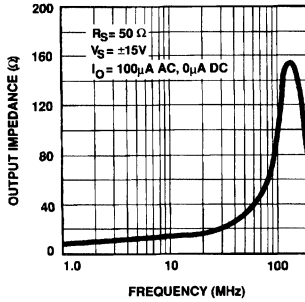

Figure 4. Output Impedance vs Frequency
The ideal buffer should exhibit zero output impedance. Illustrated in Figure 3 is the DC output impedance of the EL2002 as a function of output current. As the load current increases,  $R_{OUT}$  asymptotically approaches the value of  $R_1$  or  $R_2$  (depending on which half of the circuit is working). In other words, the  $r_e$  term approaches zero as the emitter current increases per equation (4) above. Furthermore, Figure 4 illustrates the small signal output impedance of the EL2002 as a function of frequency. In this instance any impedances which exist at the base of Q3 (or Q4) is divided by the product of  $\beta_1 * \beta_4$ , but as the frequency goes up, the  $\beta$  goes down, and the  $R_{OUT}$  increases. The dip in the output impedance above 100 MHz is due to capacitance of the package and on the die.